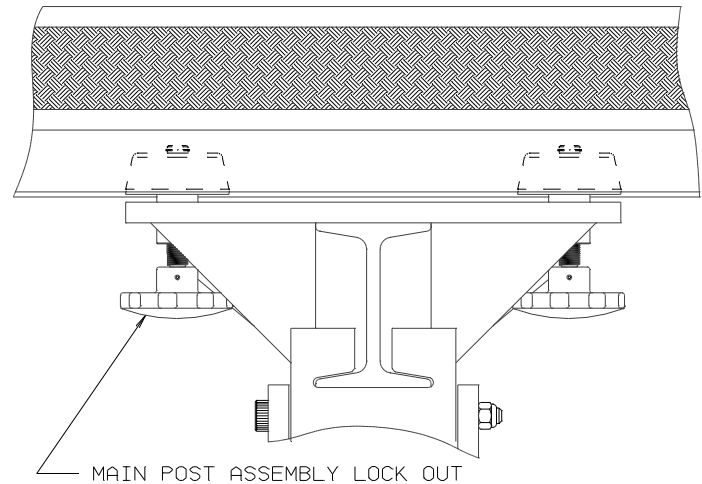

FIGURE 3
8. Tighten down main post assembly lock out screws by alternating until both are tight. (See Figure 3)